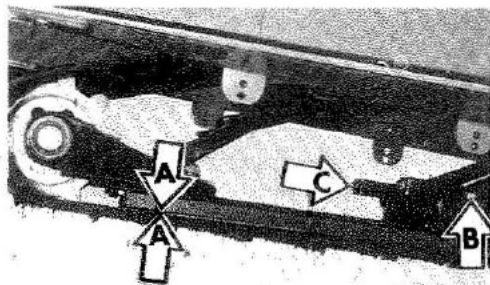

Fig. 11
If the track is in correct tension, the slide bars Fig. 11 will be flat from the rear to the start of the curved section at the front. This can be checked by laying a straight edge on top on the slide bar.
The track should sag below the rear of the slide bars by $\frac{1}{4}$ ". Fig. 11 (A).
- Loosen nuts about $\frac{3}{4}$ turn Fig. 11 (B) one on each side.
- Turn screws Fig. 11 (C) equally each side.
- Tighten nut Fig. 11 (B).
- Loosen nut about $\frac{3}{4}$ turn Fig. 11 (B).
- Turn screw Fig. 11 (C) clockwise until measurements are equalised.